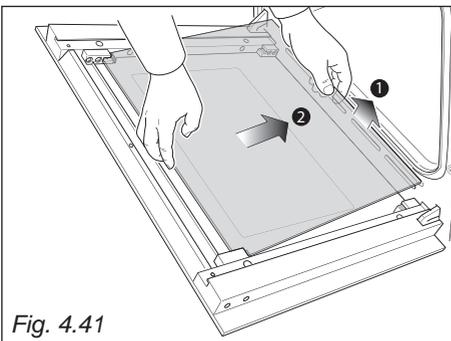

Fig. 4.41
- Gently lift the bottom edge of the pane (arrow 1 in fig. 4.41) and remove it by pulling it out from the top clamps (arrow 2 in fig. 4.41).